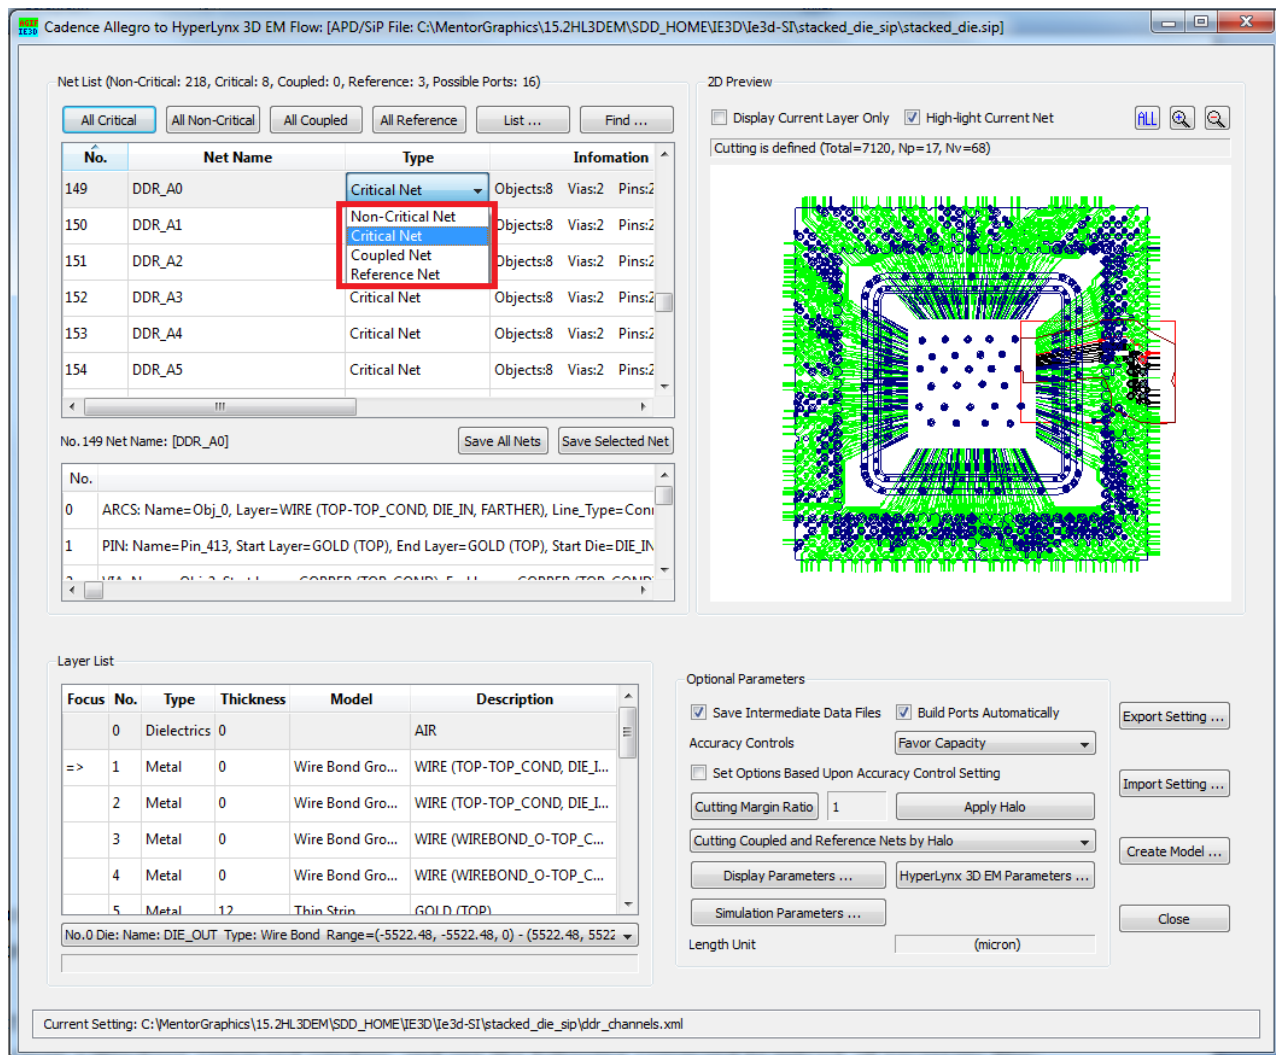

Fig. 8 Imported SiP Design
8. The imported structure should be showing up as shown in Fig. 8.